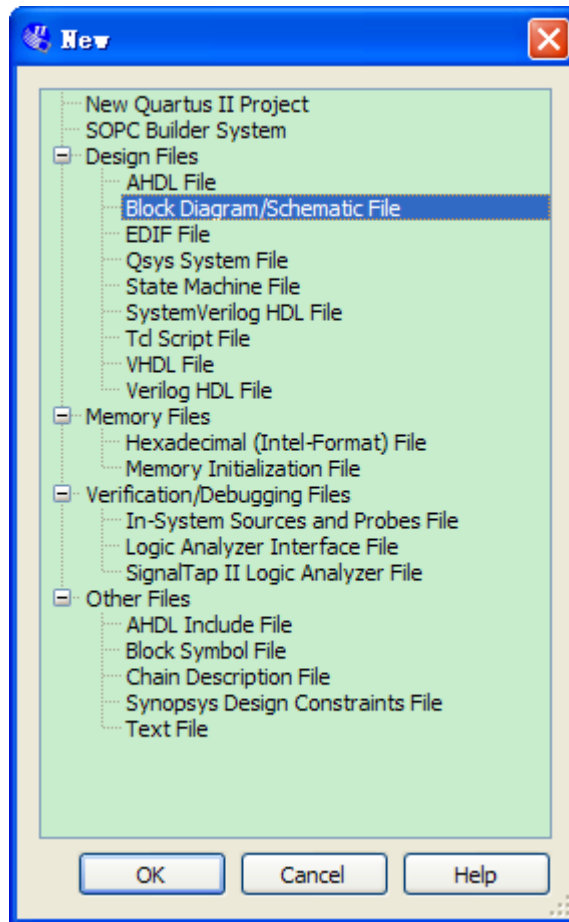

Figure 6-12 New BDF
1. Choose File > New > Block Diagram/Schematic File (see Figure 6-12 to create a new file, Block1.bdf, which you will save as the top-level design.